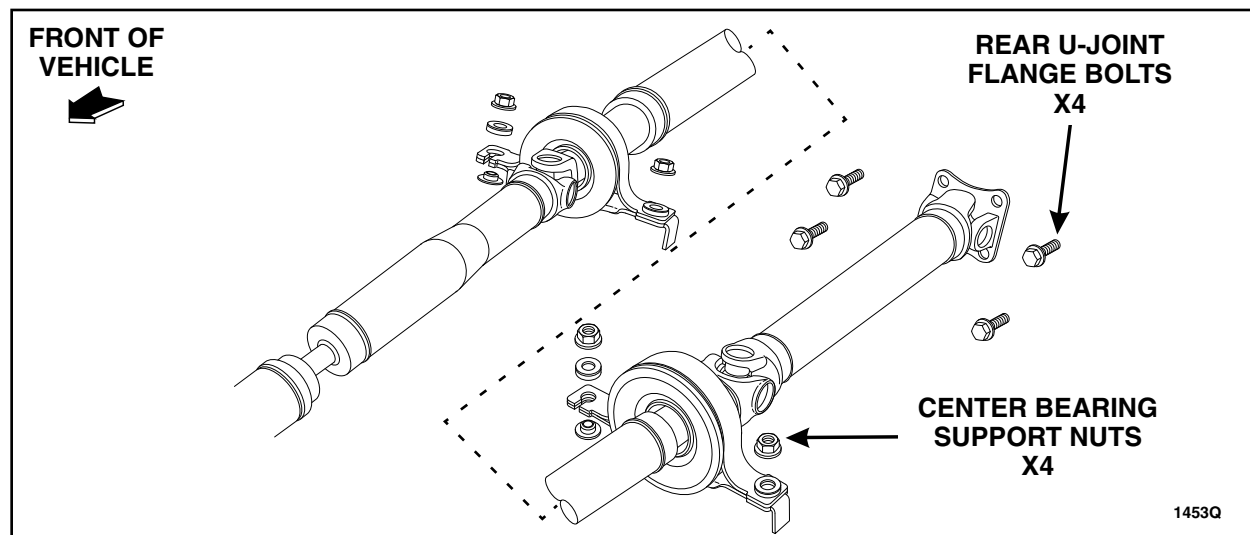

FIGURE 3
- With the help of an assistant, detach and position the rear of the driveshaft aside as follows: See Figure 3.
- Remove and discard the four (4) rear u-joint flange bolts at the differential assembly.
- Remove and discard the two (2) or four (4) center bearing support nuts. Position and secure the driveshaft up and to the left side of the vehicle.
9. Position the driveshaft and install the two (2) or four (4) *new* center bearing support nuts. See Figure 3.
10. Position the driveshaft and install the four (4) *new* rear u-joint flange bolts. See Figure 3.